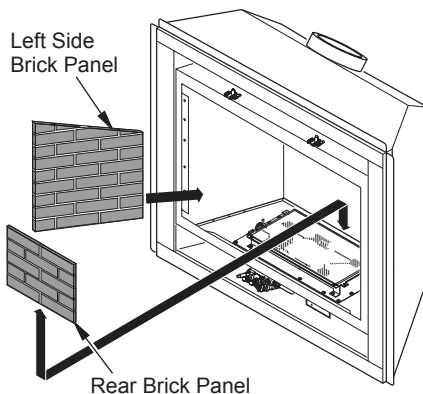

Figure 43 - Installing Rear Brick Panel
5. Close glass door frame. Lock latches by placing bar under tab on door and pushing down and back on latch (see Figure 43).
6. Install rear brick panel first. Rest bottom edge of panel on back edge of burner assembly (see Figure 43).
7. Install left side brick panel by sliding it between burner assembly and side of firebox (see Figure 43).